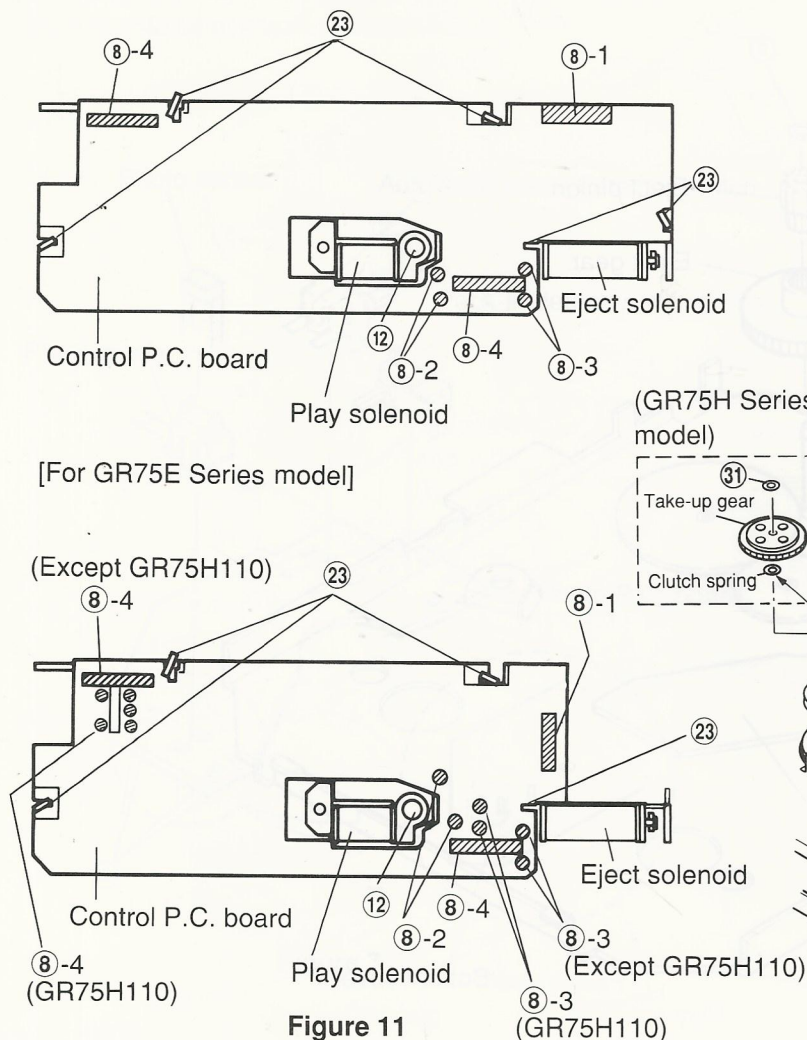

Figure 11
- (2) Remove solder ⑧-1, and remove the parallel wire (5P) from the control P.C. board as shown in Figure 11.
- (1) Remove the two solders (8-2) as shown in Figure 11.
- (2) Remove one screw (12) and remove the solenoid as shown in Figure 11.
- (3) Mount the new solenoid following the removal steps in the reverse order.
- (1) Remove two solders (8-3). Take care not to loose the tube that protects the wire. (Refer to Figure 11.)
- (1) Remove seven solders (8) and remove the three parallel wires and the wires of the eject solenoid and of the play solenoid as shown in Figure 11.
- (2) Remove five claws (23) and remove the P.C. board as shown in Figure 11. [For GR75E Series model] Remove four claws (23) and remove the P.C. board as shown in Figure 11. [For GR75L Series, GR-Y Series, GR75H Series models]
- (3) After replacing the old P.C. board with a new one, mount it following the removal steps in the reverse order.